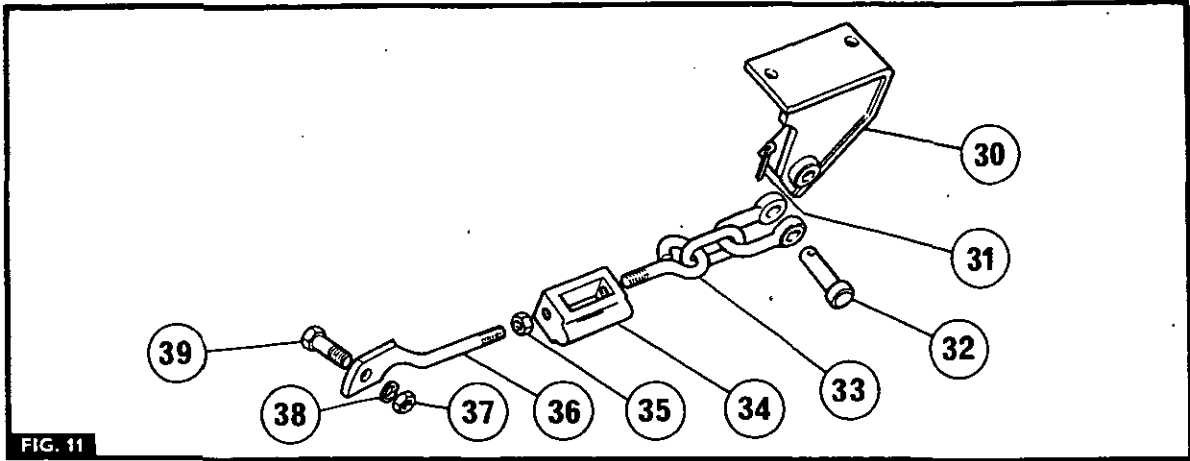

FIG. 11
2. Fig. 11. Locate the brackets (30) on the fender bolts and secure them with the washers and nuts tightened to a torque of 17 kg-m (125 lb-ft).
3. Assemble the chains (33) turnbuckle (34) locknut (35) and the link (36) together for each side of the tractor.
4. Align the rear links (36) with the holes in the lower links and secure them with the bolt (39), washer (38) and nut (37).
5. Align the shackles of the chains (33) with the holes in the bracket (30), then secure them with the clevis pins (32) and split pins (31).